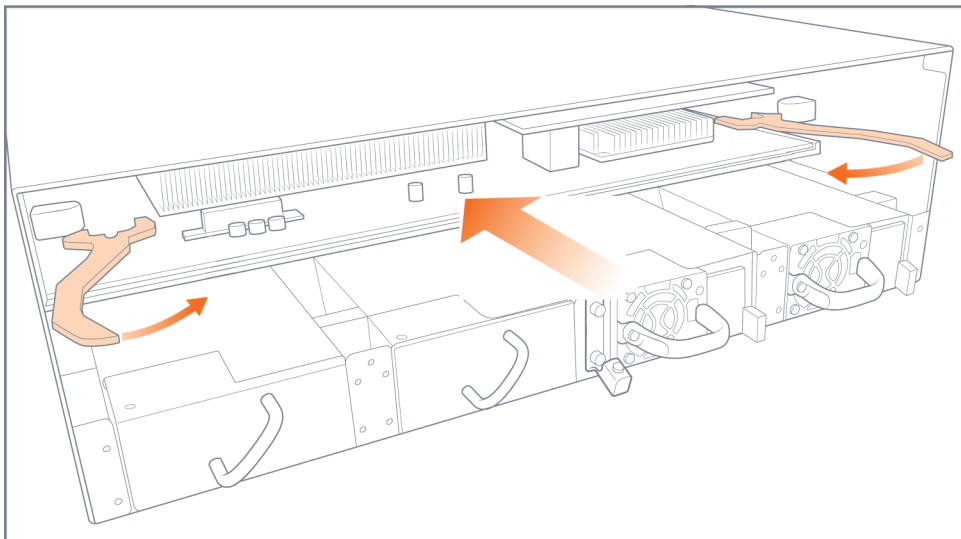

Figure 4-21: Control Card Ejector Handles
2. Swing both ejector handles inward as shown in Figure 4-21 on page 85.